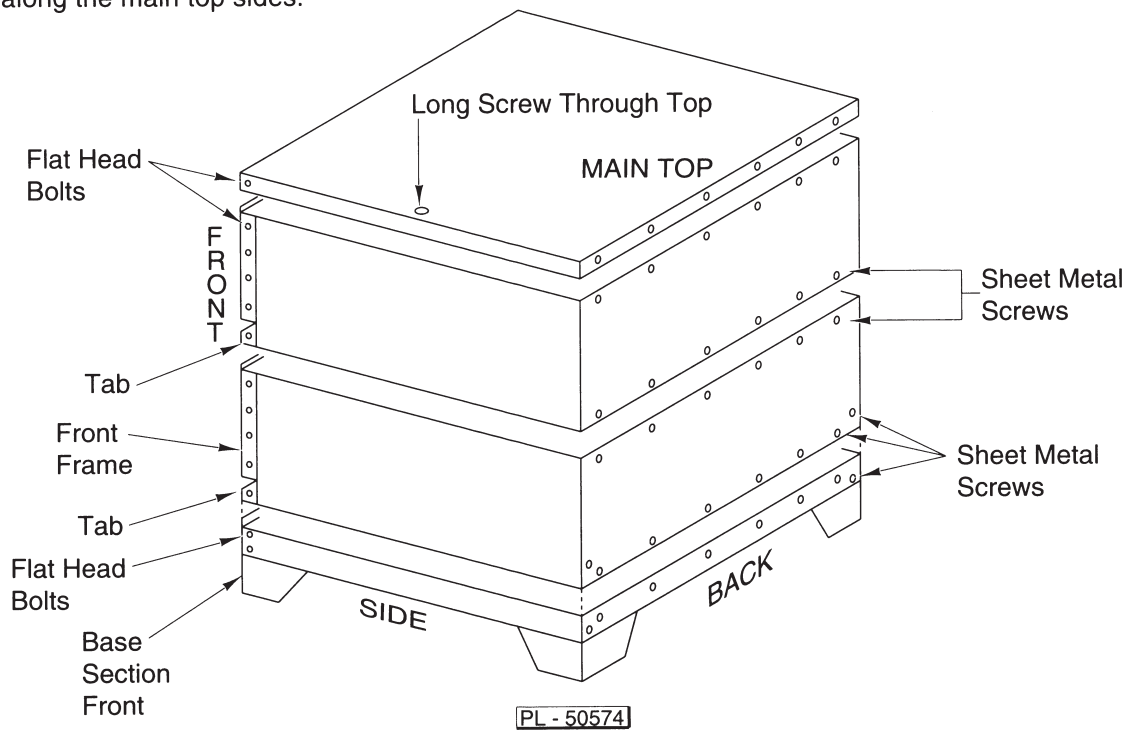

Fig. 1
6. Lift the middle or top oven up onto the base section. Slide the oven forward until the tabs (Fig. 1) on the body sides engage behind the base section front top.
8. Fasten sides to base section front with the flat head bolts (Fig. 1) provided. Fasten backs with sheet metal screws (Fig. 1) provided.
When installing a new oven section without base on a previously installed oven section or sections, the main top should be removed and the new deck installed as in Steps 4 through 8. The main top should then be reinstalled, making sure that the vent stack engages with the vent cover and that the two long screws (Fig. 1) are replaced halfway along the main top sides.